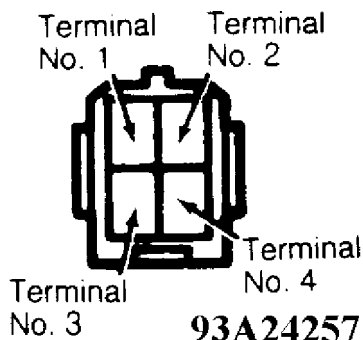

Fig. 29: Identifying Overdrive (OD) Switch Terminals
1) Disconnect electrical connector from OD switch, located on shift lever. Note terminal identification on OD switch. See Fig. 29.